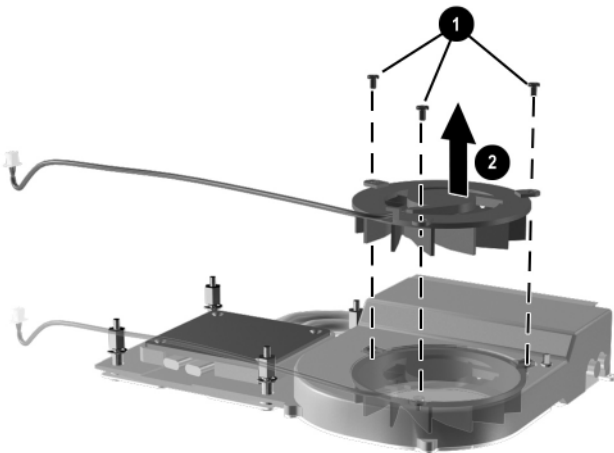

Figure 5-18. Removing the Fan
6. Remove the three PM2.0 × 4.5 screws **1** that secure the fan to the heat sink (Figure 5-18).